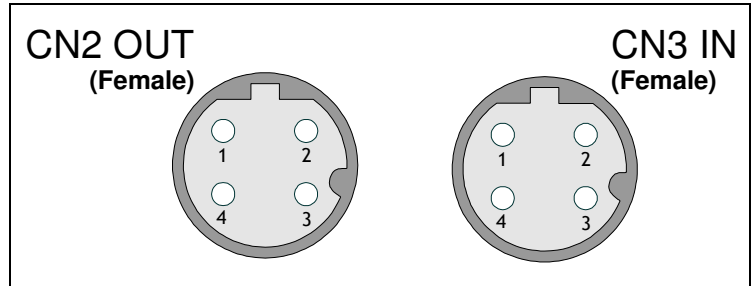
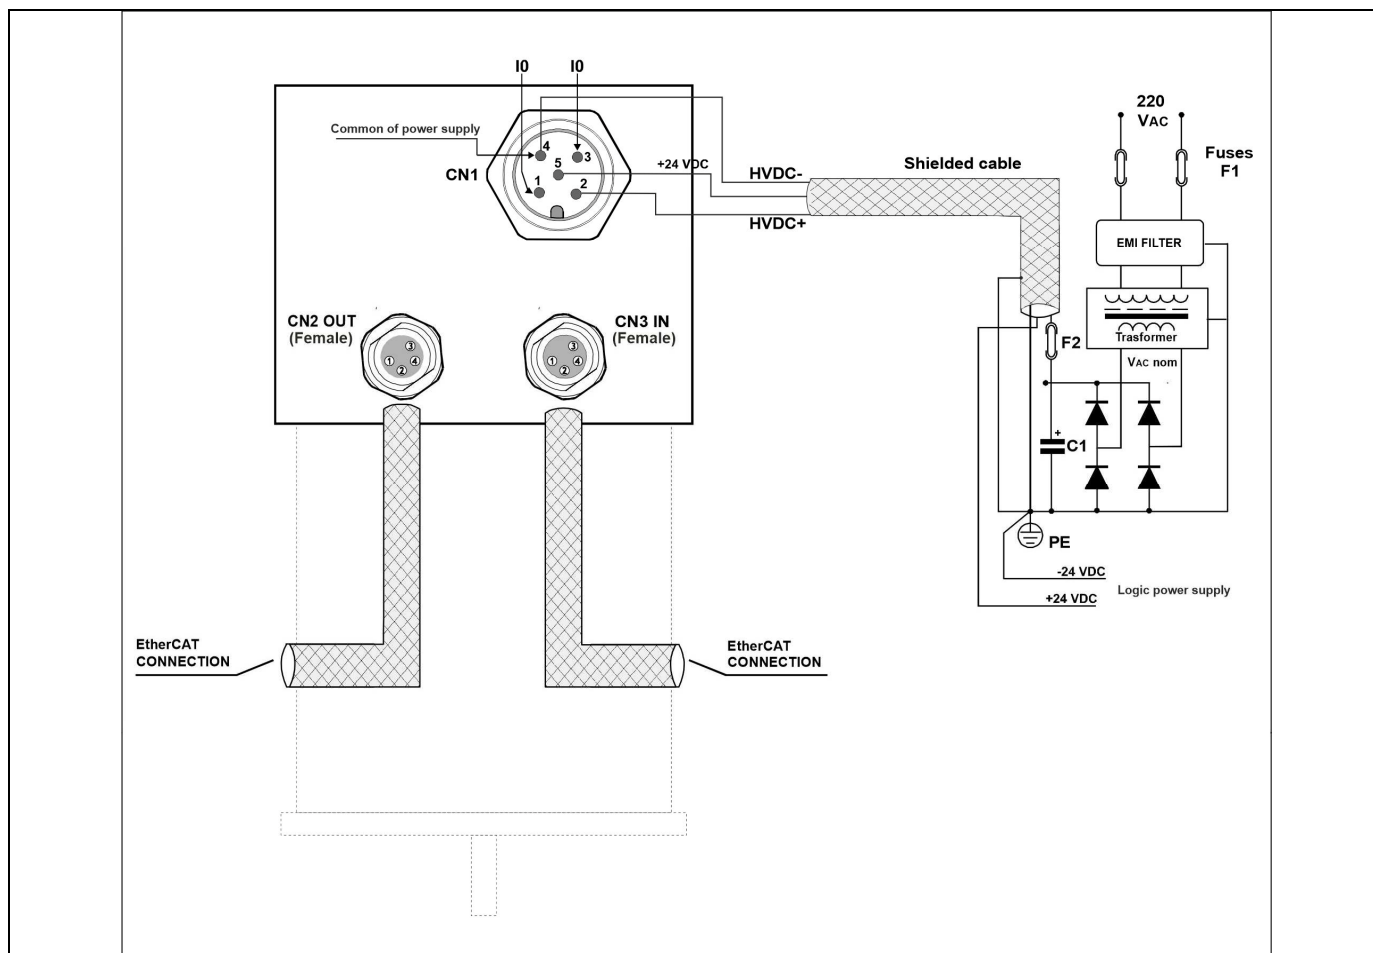

Figure 4 –CN2 and CN3 connectors
Figure 5 – Connections scheme
- M12 Circular connector 5 terminals for power supply and logic signals (CN1 Figure 3 and Figure 5).
- Two M8 circular connectors for EtherCAT IN and OUT (CN2, CN3 Figure 4 and Figure 5) to allow a daisy-chain connection.
Two standard Ethernet M8 modular connectors (IN, OUT) are provided for the EtherCAT communication. The same pin disposition (same signal) is assigned for both connectors. Figure 4 shows connector M8 connectors used for connection between the drive and the control system.
Power supply shown in Figure 5 can be realized with single-phase bridge rectifier (as indicated in figure) or with three-phase bridge rectifier. C1 filter capacitor can never have a capacitance below $4700 \times n \mu\text{F}$ (n = number of drives connected to the same power supply). The use of three-phase solution has to be preferred when the number of drives connected to the same power supply is more than three.
- Connection made to Protective Earth terminal (PE), shown in Fig. 5, must be short and have the lowest possible inductance.
- All connections made to Protective Earth (PE) must be realized to have the lowest possible inductance.